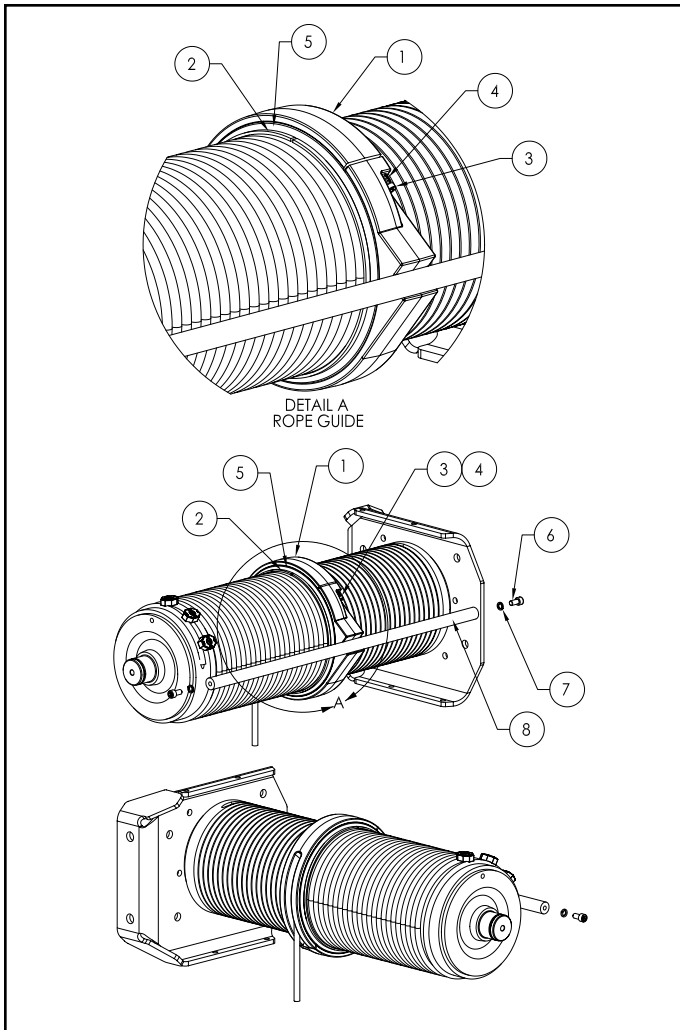

Figure 5-3a. Rope Guide Assembly ('B' & 'C' Frame)
b) **Disassembly for "B" & "C" Frames.** Refer to Fig. 5-3a. For further assistance in locating components, refer to the parts list in Section IX.
- (1) Remove socket head cap screws and lock washers (Items 6 and 7). Remove drum frame rod (Item 8).
- (2) Remove shoulder bolts (Item 3) and compression springs (Item 4). The two halves of the rope guide body (Item 1) can now be pulled off the drum separately. When reassembling be sure that the half with the rope slot is on the top half of the drum.
- (1) Thread rope to drum from trolley frame side then secure with rope clamps as follows:
- (2) With all personnel clear of hoist - **TURN ON POWER.**
- (3) Operate hoist "UP" guiding six (6) wraps of new rope into drum grooves with gloved hand.
- (4) Re-install rope guide over rope in rope drum grooves as shown in Figures 5-3a & 5-3b. and outlined in Section V, Paragraph 5-5. Continue lubricating as rope is spooled onto the drum until about 28'-0" remain unwound.